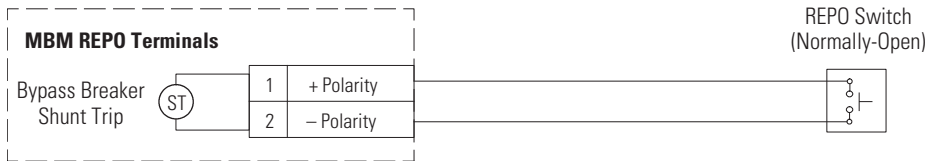

Figure 19. REPO Switch Wiring
7. Connect the appropriate external switch to the REPO terminals. See Figure 17 on page 24 for terminal locations, and Figure 19, Table 3, and Table 5 for REPO wiring.